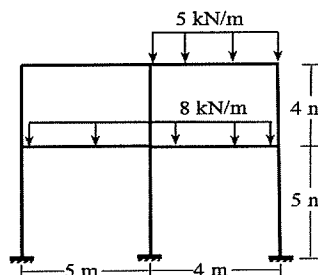

Figure 9
9. Analyze the frame shown in **Figure 9** to draw the bending moment diagram using Vertical Load (Approximate) Method and of the frame. [05]